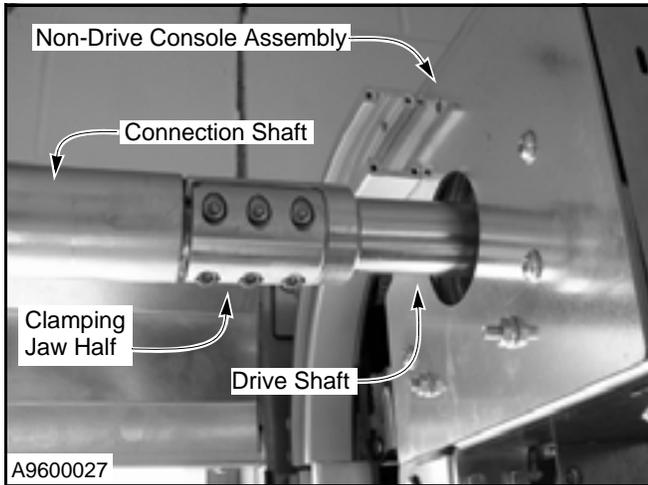

Figure 20
- Inspect the hardware used to clamp the connection shaft to the left and right drive consoles. Tighten the hardware as required. Replace any missing or damaged hardware. (See Figure 20.)